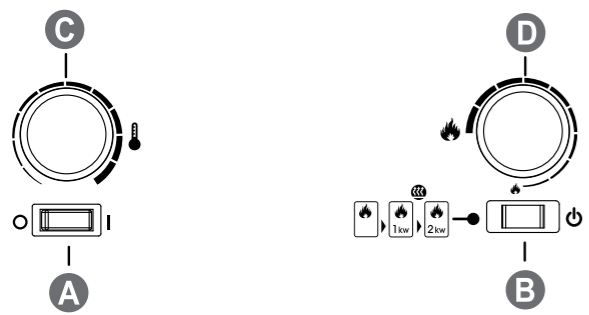

Fig.2
9. Press Switch 'A' to 'ON' (I) position (See Fig.2)
1. Press Switch 'A' to the 'OFF' (0) position (See Fig.2)
7. Press Switch 'A' to the 'ON' (I) position (See Fig.2)
On the control panel, Switch A (see Fig.2) must be in the 'ON' (I) position in order for the remote control to operate. There are 3 buttons on the remote control. (See Fig.7) To operate correctly the remote must be pointed towards the front of the grate. (See Fig 12). The remote control functions are as follows:
Flame effect control knob is set too low. (See Fig.2)	Increase level of flame by turning Control knob 'D' anti clockwise slowly. (See Fig.2)
Flame effect setting is too high.	Turn the flame effect Control knob C clockwise, about ¼ a turn, at a time. Give the flame generator some time to adjust to the new setting. (See Fig.2)